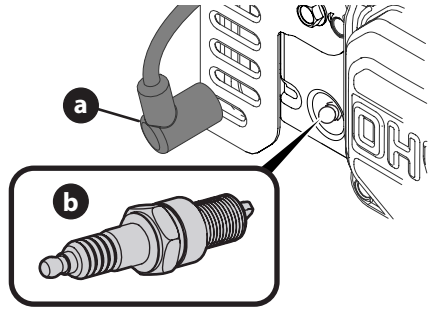

Figure 16
1. Remove the spark plug boot (a) and use a spark plug wrench to remove the spark plug (b) (Figure 16).